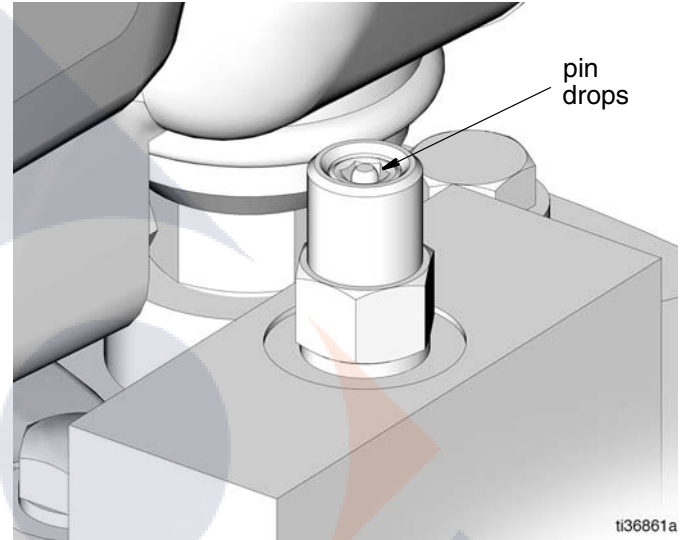

FIG. 17
Auto-Fill Shut Off Valve (S) has not reset	Make sure Auto-Fill Shut Off (S) pin is down. See FIG. 17, page 17.